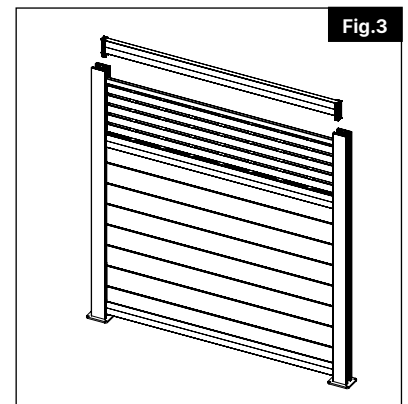
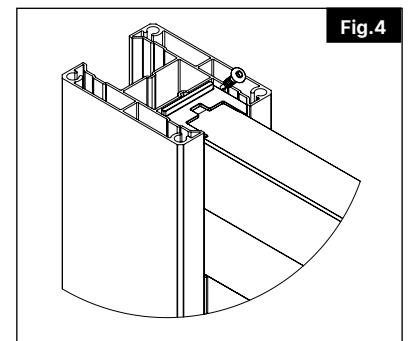

Fig.3
Fig.4
- 5.** Install bottom rail assembly by sliding the bracket into channel of the posts (Fig. 3).
- 6.** Lower until the bottom of the brackets are resting on top of the surface mount plate (Fig. 4).
- 4.** Install top rail by sliding brackets into the post channels. Stop bracket when the top of the bracket is flush to the top of the post. Install a #10 x $\frac{3}{4}$ " screw at an angle through the bracket and into the inner wall of the post (Fig. 3 and Fig. 4).
3. Install bottom rail into post and next posts to help determine location. Repeat for additional posts (Fig. 3).
4. Install bottom rail into post a minimum of 72¼" from the top of the post to the bottom of the bracket (Fig. 4). Level rail rail and attach to post with #10 x ¾" screw through the bottom hole of the bracket (Fig. 4).